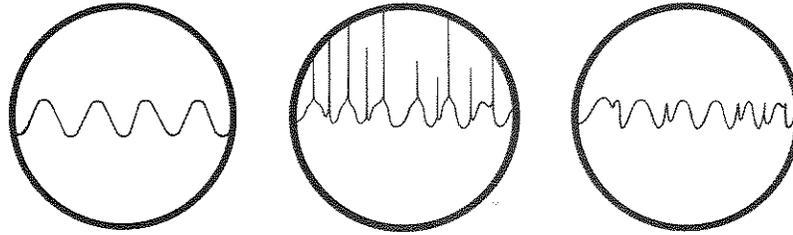

FIG. 7. NOISE LIMITER ACTION
- NOISE LIMITER switch** The noise limiter circuit is particularly useful for code reception because it "elips" the intermittent noise peaks down to the level of the desired signal where they tend to become unnoticeable. See Fig. 7 for an illustration of limiter action.